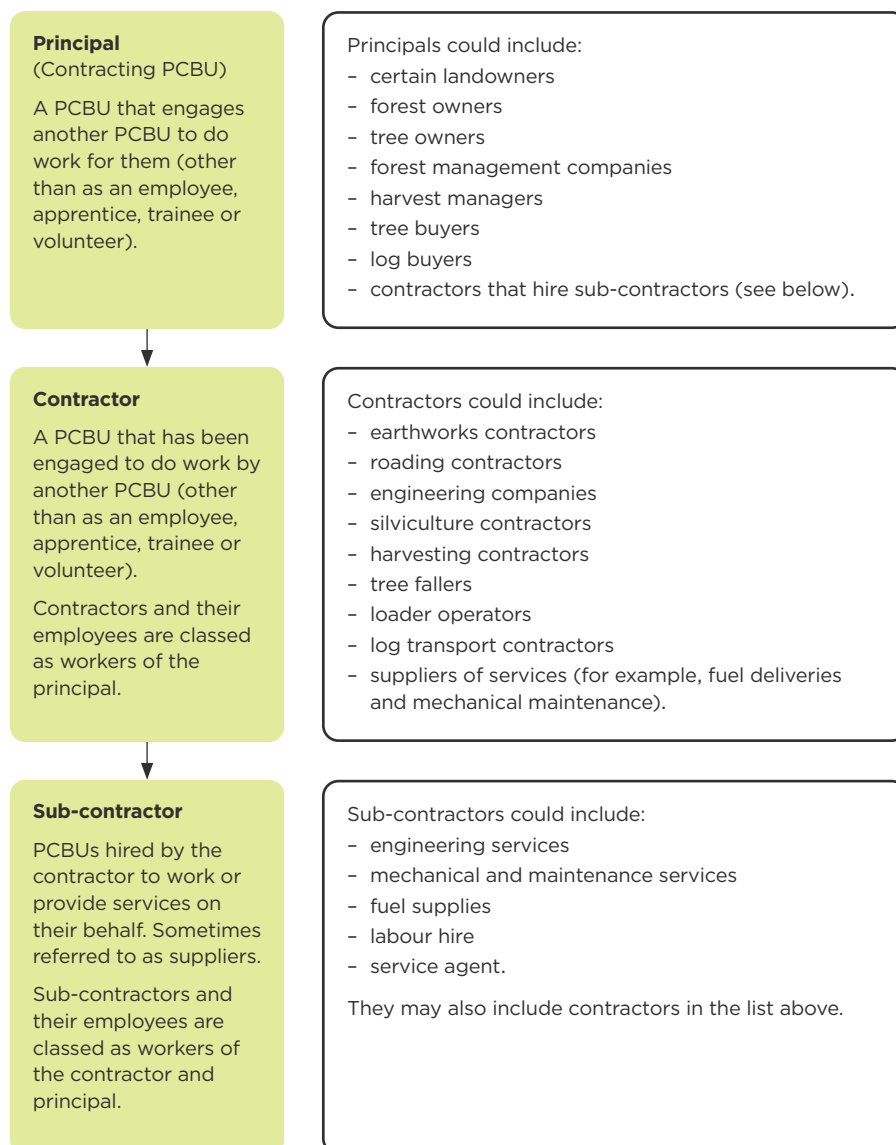

FIGURE 1:
- 3.2.3 In a contracting chain, and for HSWA purposes, employees of the contractor are workers of the principal (as well as being workers of their employer) (Figure 1).